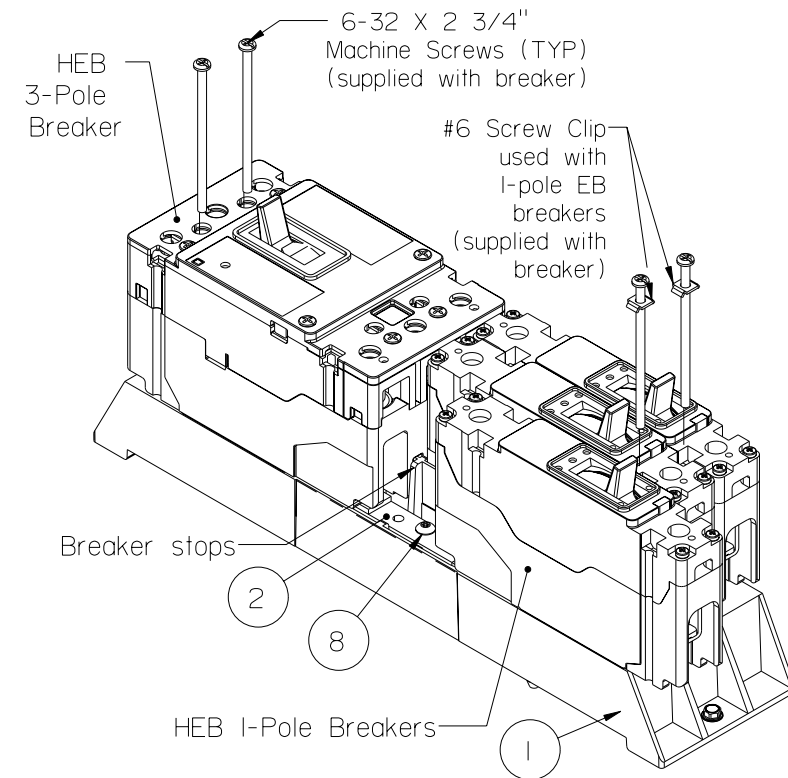

Figure 4
8. Refer to fig. 4. - Position each branch breaker so that the line side of the breaker case rests against the center stops on the breaker mtg. barrier. The thru holes located on the load side of the breaker will align with the threaded inserts to the rear of the breaker mounting barrier (item 1). Bring each breaker line stab into contact with its connector bus and align all breaker stab holes with the corresponding connector bus holes.
9. Fasten each breaker line stab to its connector using a 10-24 X 5/8" screw (item 8), and tighten to the torque value specified on the back of the dead front. Secure the breaker to the mounting barrier using the 6-32 X 2 3/4" machine screws supplied with the breaker. Overtightening of these screws can result in the removal of the threaded inserts in the mounting barrier (item 1).